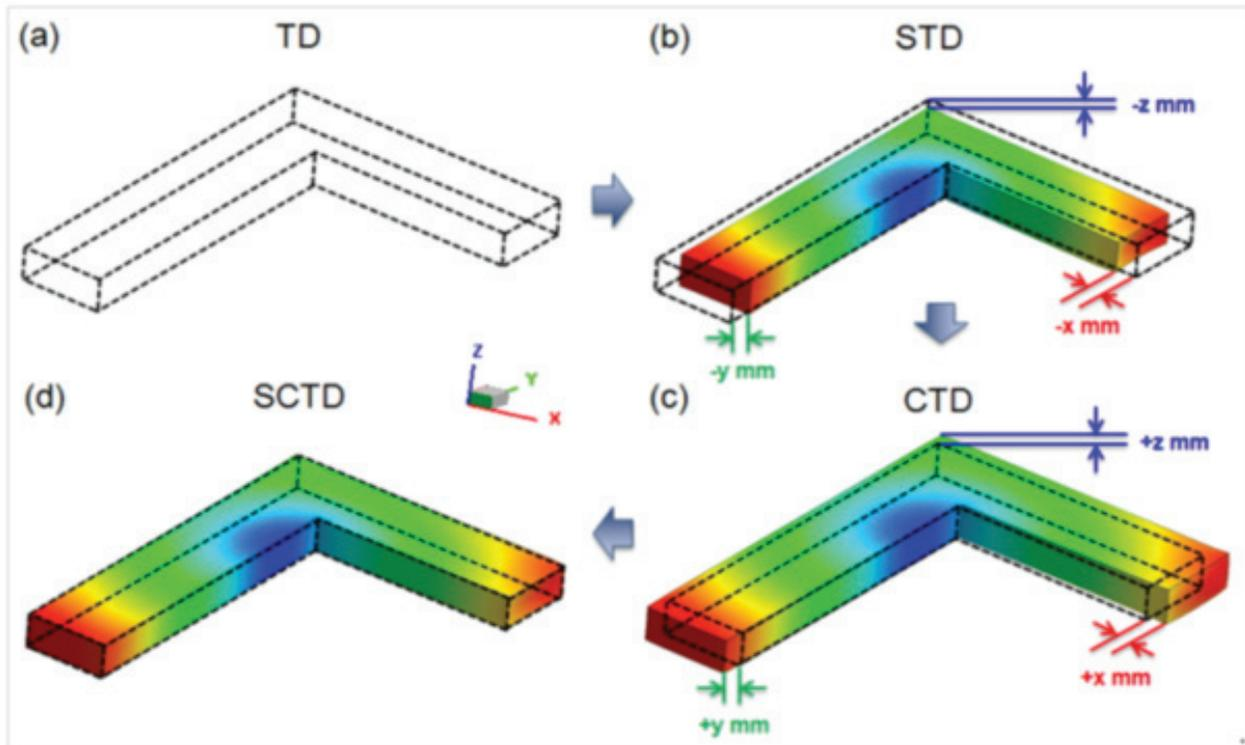

Figure 1: A schematic flowchart of 3D VSCM
The mold, part and insert geometry were modeled in CAD software. For calculation optimization purposes, only the section of the mold where the inserts are assembled was modeled. Since the cooling system has only straight through cooling lines, this simplification does not affect the numerical simulation of the thermal behavior. Similarly, the rear clamp plate of the mold was not modeled either. **Figure 1** shows the CAD representation of the mold assembly. The mold base was made using P-20 steel.
The insert geometry for the DMLS and PolyJet™ inserts was the same. However, slight differences exist with **Figure 1: Mold CAD representation.**
The following is a schematic flowchart of 3D VSCM. **Figure 1** is an L-shape model. **Figure 1 (a)** is the desired geometry and dimension of Target Design (TD); (b) is the result of Moldex3D's warpage Simulation on Target Design (STD). Next, since the shrinkage is three dimensional, to give better understanding, we define the shrinkage as $-x$, $-y$, and $-z$ mm in three axes, respectively. Then, in order to compensate, the
original design (TD) is revised with reverse of shrinkage. After revision, the modified design is shown as Compensate Target Design (CTD) (Fig. 1 (c)). Lastly, we performed a simulation on this CTD design. Fig. 1 (d) is the result of Simulation on Compensate Target Design (SCTD). We found that after this compensation, SCTD result is very close to TD.